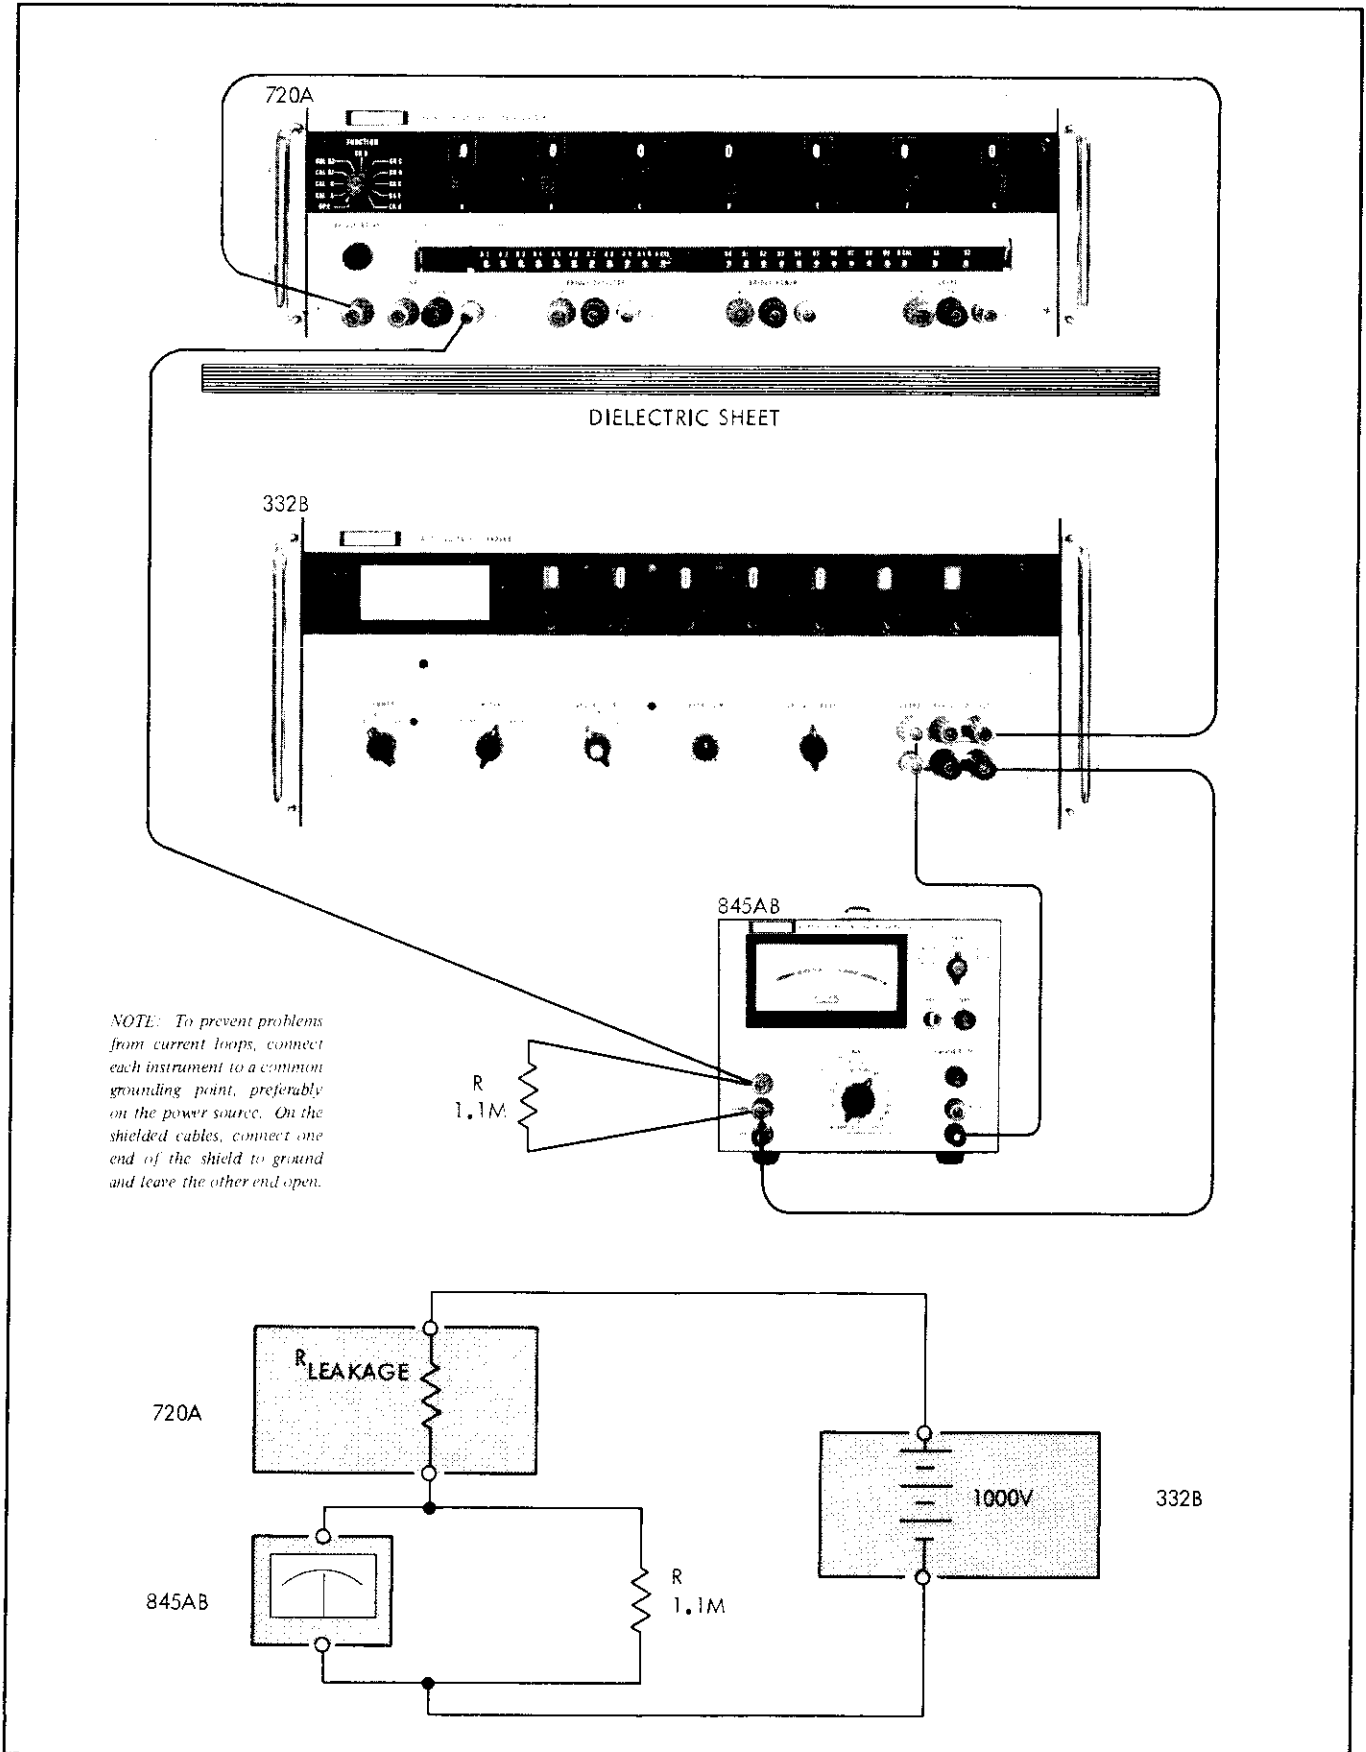

Figure 4-2. EQUIPMENT CONNECTIONS FOR LEAKAGE RESISTANCE TEST
- b. Use teflon insulated wire to connect the Model 720A, a 1000-volt source (Model 332B), and a null detector (Model 845AB) as shown in Figure 4-2.